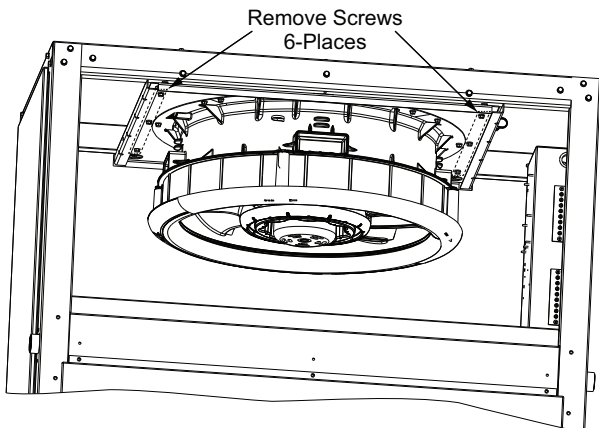

Fig. 31 — Remove Screws from Fan Deck Assembly
3. Remove six screws from the fan deck. See Fig. 31.